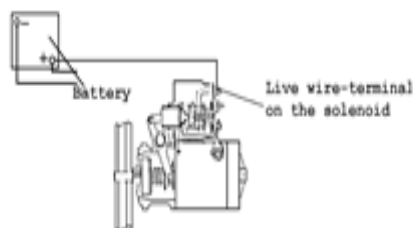

Fig. 4
- Connect an insulated wire (jumper lead) from the positive (+) terminal of the battery, and the other side of the lead to the "live wire" terminal of the solenoid (as shown in Fig. 4).